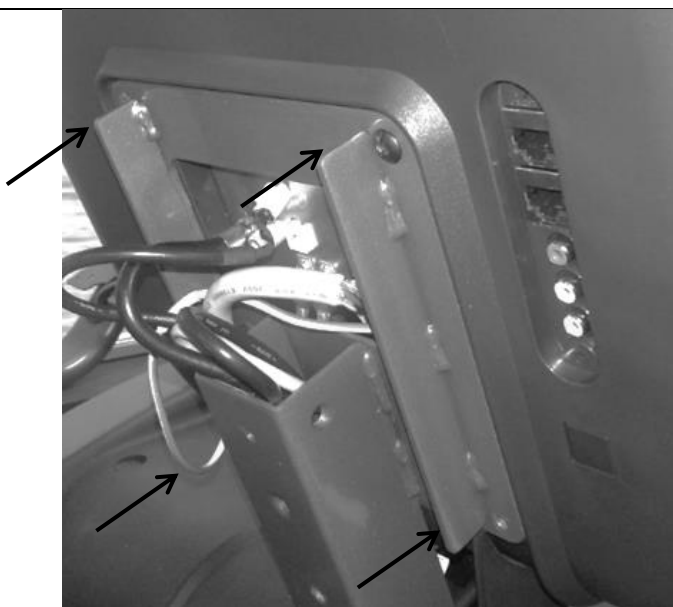

Figure 21
- c) Attach Console to the Console Mast with 4 M5x10mm bolts. Bolts are located in the back of the console. Figure 21